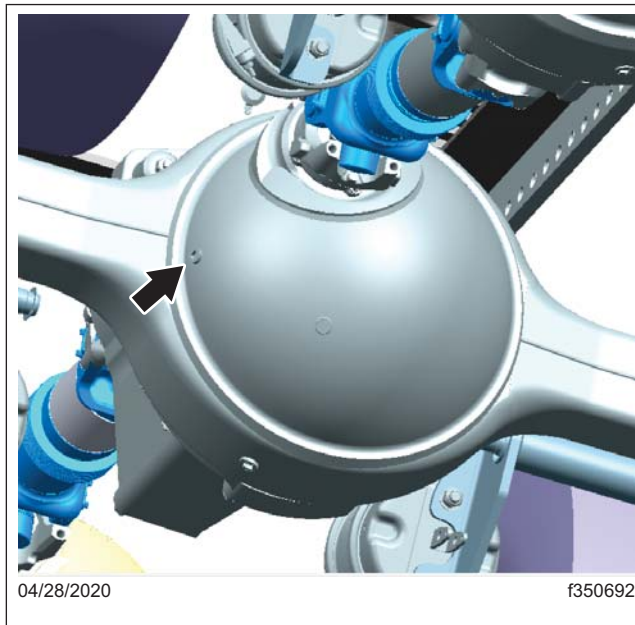
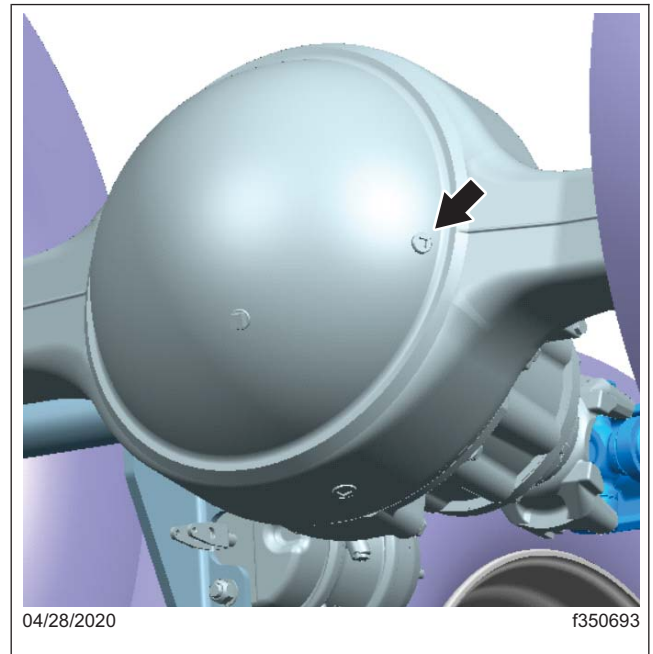

Fig. 3, Detroit™ New Final Drive Forward Axle, Oil Fill Location
Fig. 4, Detroit™ New Final Drive Rear Axle, Oil Fill Location
2. Clean the fill plug and the area around it. In the carrier housing, remove the plug from the oil fill hole. See **Fig. 3** for the forward axle, and **Fig. 4** for the rear axle.